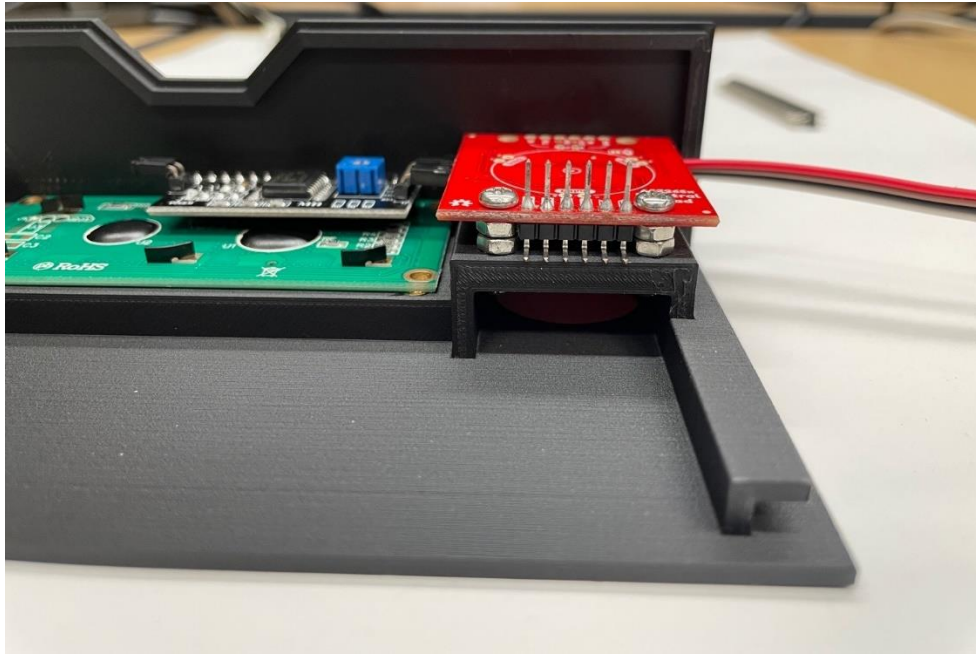

Figure 2.5 – AS7265x Sensor being mounted.
3. Screw down the AS7265x Sensor using either a standoff or a pair of hex nuts as a spacer (Figure 2.5).